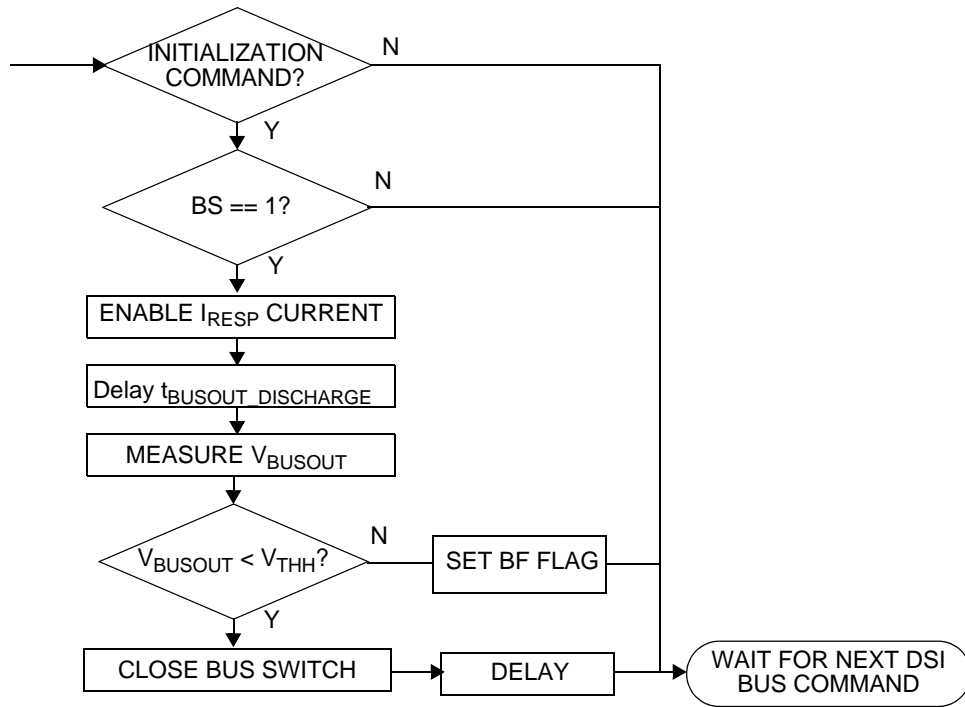

Figure 23. Initialization Sequence
Figure 23 illustrates the sequence of operations performed following negation of internal power-on reset (POR) and execution of a DSI Initialization command. The BUSOUT node is tested for a bus short to high voltage condition, and the bus fault (BF) flag is set if an error condition is detected. If no bus fault condition is detected and the BS bit is set in the Initialization command message, the bus switch will be closed. The device implements a blanking time ( $t_{DSI\_BLANK\_INIT}$ ) to allow for the bus voltage to recover following closure of the bus switch.